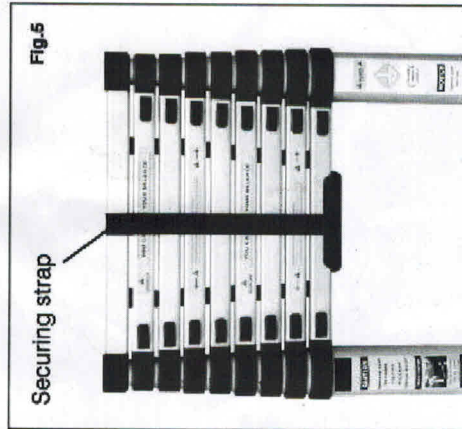

Fig.5
- 3) Once fully lowered, attach the strap around the rungs (see Fig.5).